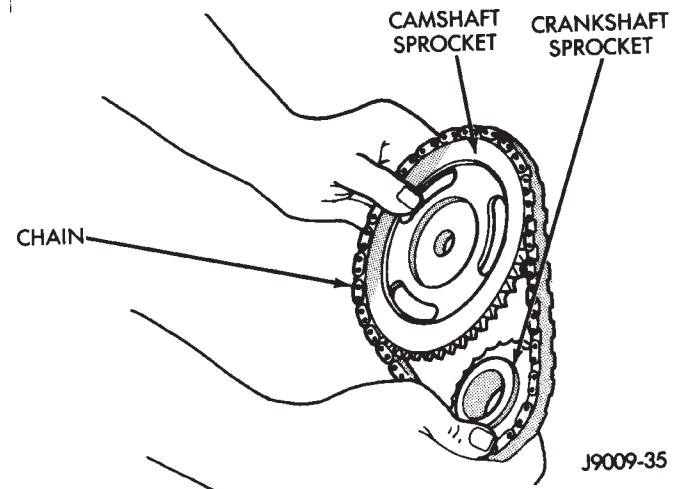

Fig. 16 Camshaft and Crankshaft Sprocket and Chain
- (11) Remove camshaft sprocket retaining bolt.
- (12) Remove the crankshaft oil slinger.
- (13) Remove the sprockets and chain as an assembly (Fig. 16).